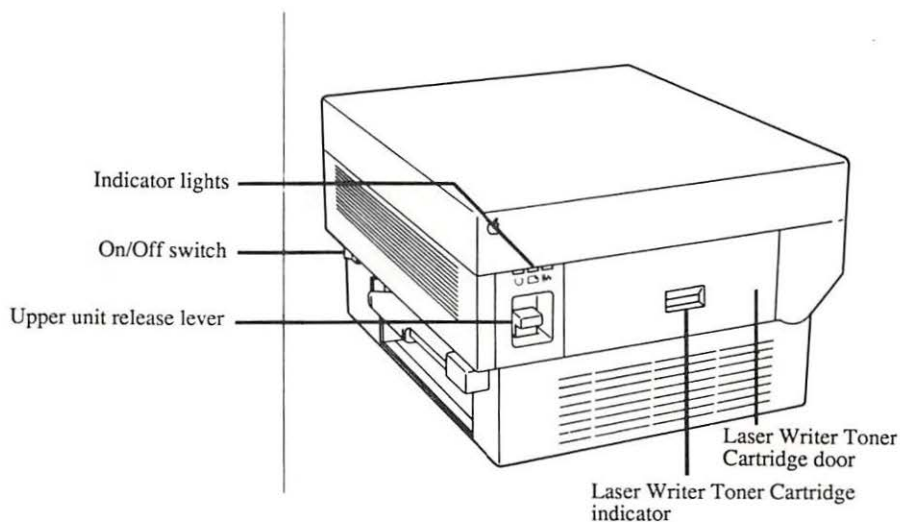

FIGURE 5-6
1. Lift the release and raise the upper half of the printer (Figure 5-6).
1. Push the release lever up and open the upper half of the printer (Figure 5-6).